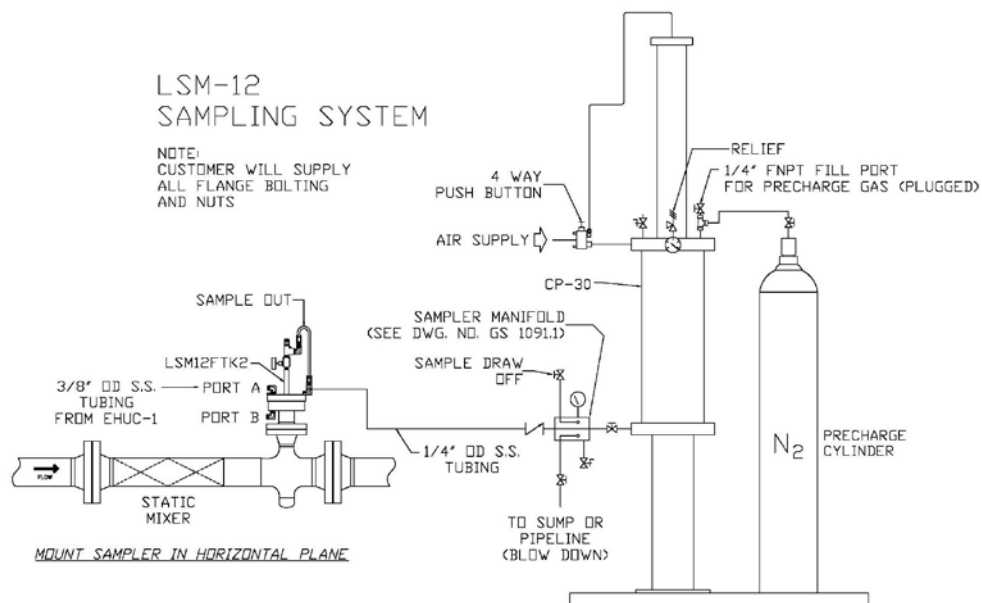

FIGURE 3
2.1.4.3 Tube from the sample outlet port of the sample pump to the sample inlet on the manifold block. Use 1/8" or 1/4" stainless steel tubing or high-pressure flex line. (Figure 3)
2.1.4.5 Connect the air supply to the solenoid on the push-button actuation valve on top of the CP-30 that is for mixing the sample. (Figure 3)